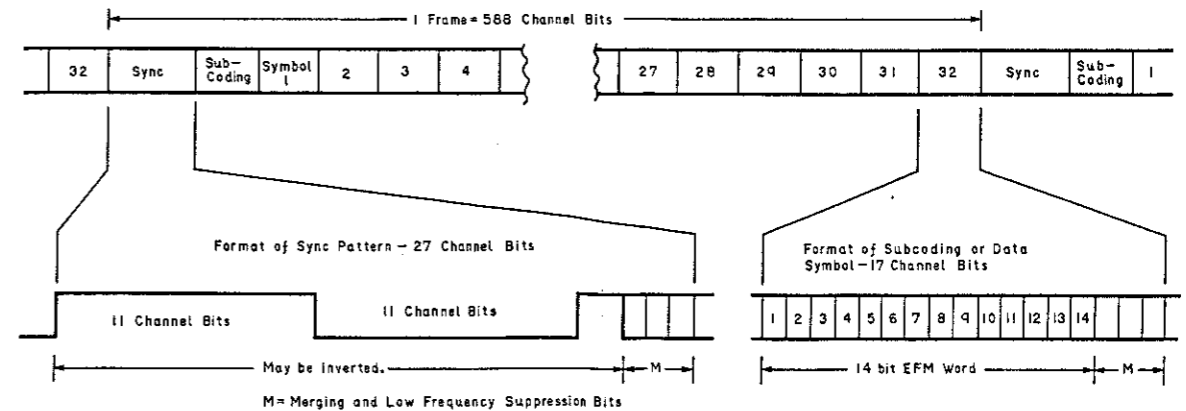
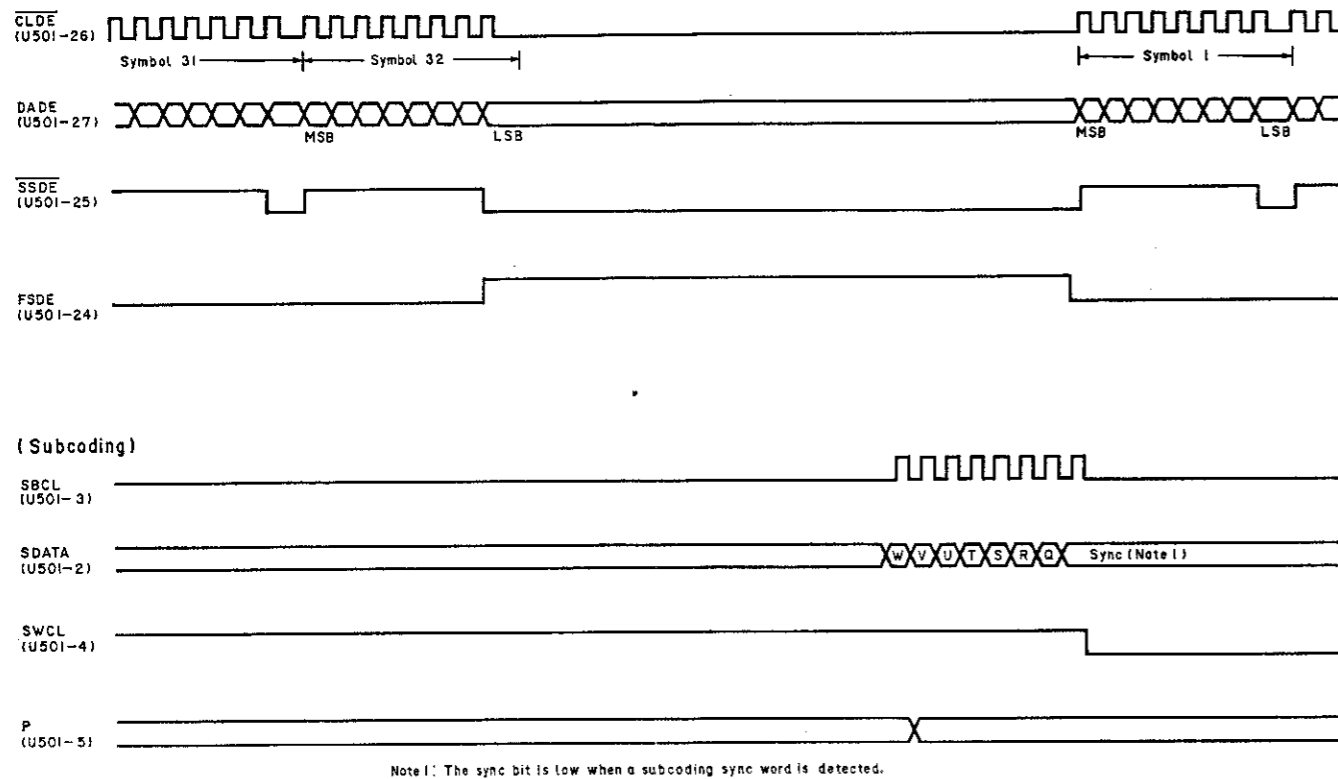

Fig. 8.1.15 Input Waveform to HF Pin (SAA7011)
Fig. 8.1.16 Output Waveforms (SAA7011)
The frame sync signal is used to reset the ÷588 slave-counter which, together with a ÷17 symbol rate counter, supplies timing signals for clocking the Eight-to-Fourteen Modulation (EFM) decoder and the subcoding outputs. The data is read from the input shift register in symbols of 14 bits which are latched and then decoded into 8 bit data words. The subcoding part consists of only one word per frame (see Fig. 8.1.15), therefore the output (SDATA) is a burst of 8 bits of data accompanied by a 2.1609 MHz burst clock signal (SBCL) (see Fig. 8.1.16). One bit of this subcoding output data is replaced by a subcoding frame sync bit (SF) which is decoded from either of two special EFM codes. The displaced bit is known as the Pause or P bit and is latched to its own output via a debounce circuit to remove erroneous changes.
The ÷588 master counter, together with a second ÷17 symbol rate counter, is used to time the data and clock signals to the Error Corrector SAA7020 (see Fig. 8.1.16). In this way, even if the data has been corrupted, the timing signals are correct and only re-synchronized after a complete frame has been sent to the Error Corrector.